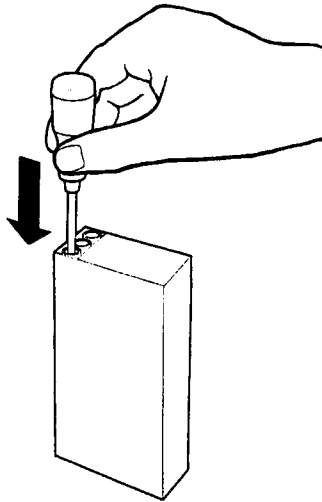

Figure 10: Loading the Probe Cover
- 3) Load a probe cover onto the probe by holding the probe collar with the thumb and forefinger, being careful not to hold or press the ejection button. Refer to Figure 10.